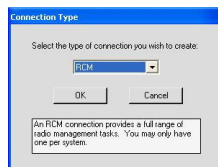

Figure 1.4 – Connection Type window
2. Click on the **Add** button (If you have no connections configured, the **Add** button will be flashing): This will bring up the *Connection Type* window shown in Figure 1.4.
2. Click the **Add** button (if you have no connections configured, the **Add** button will be flashing): This will bring up the *Connection Type* window shown in Figure 1.4.
8. Click on the **Add** button (If you have no connections configured, the **Add** button will be flashing): This will bring up the *Connection Type* window shown in Figure 1.4.